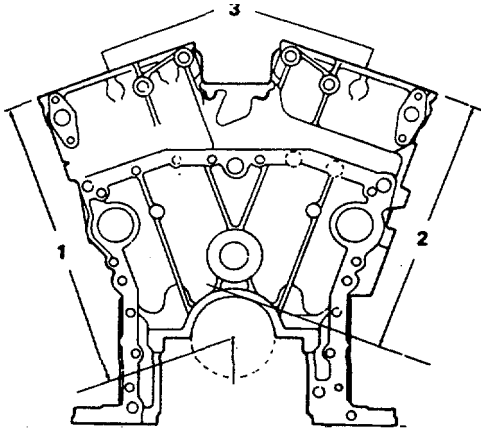

Figure 13-52. Cylinder Block Height Checking Location
- (c) Check distance from centerline of main bearing to top of block (1, figure 13-52). Refer to tabulated data in Chapter 1 for dimensions.